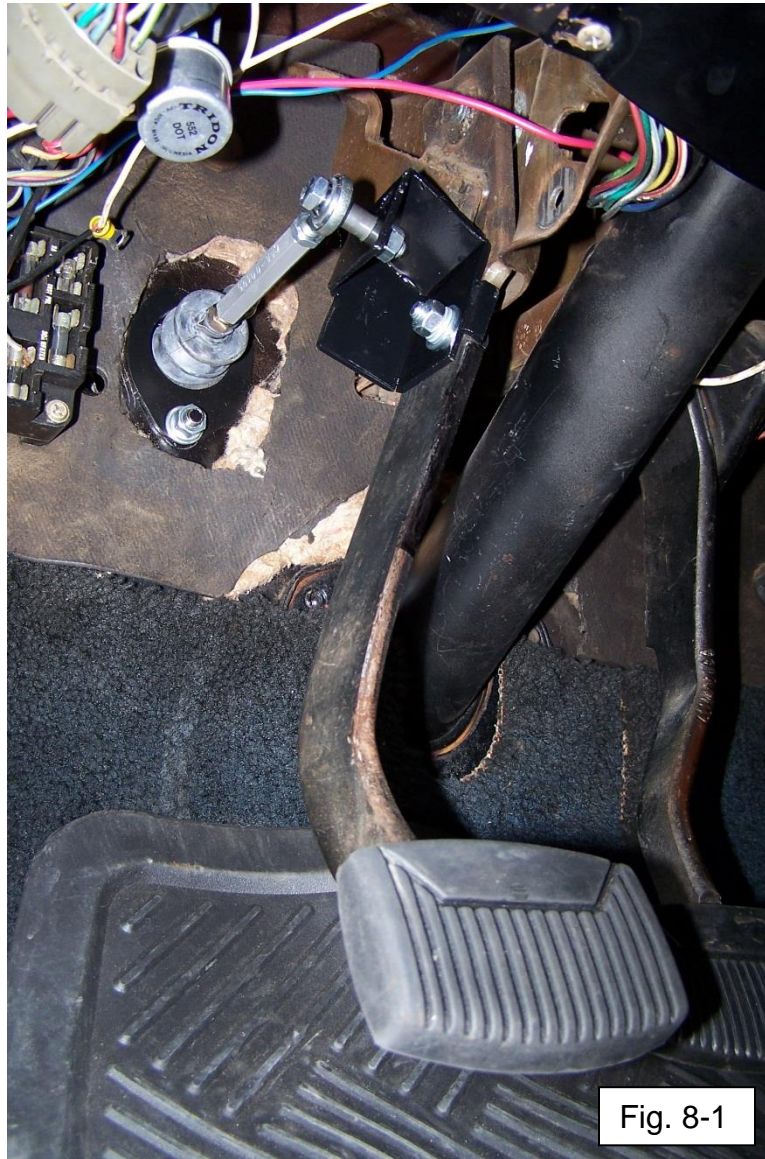

Fig. 8-1
2. Assemble 5/16-18" x 1-1/2" socket head bolt provided with kit through rod end on master cylinder pushrod. Add 1/2" aluminum spacer, then install bolt thru left (driver) side of the pedal bracket and install flat washer, locker washer, and nut finger tight. See Fig. 8-1.